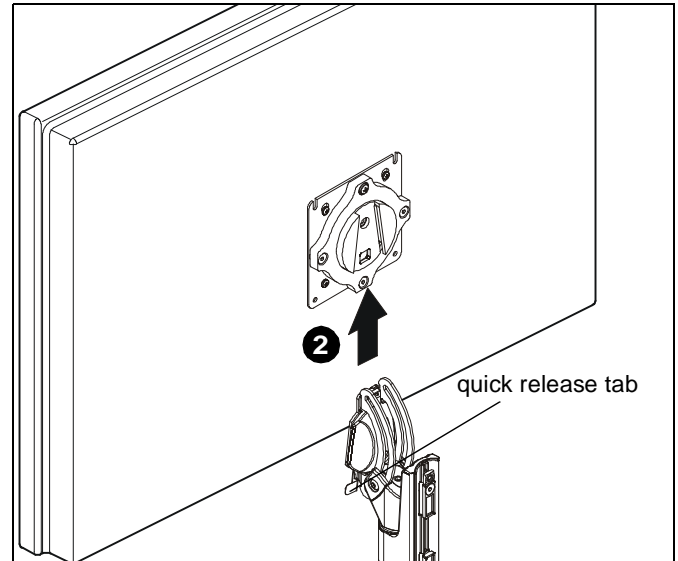

Figure 7
WARNING: Only remove display from mount when the display can be lifted up from the mount! DO NOT remove display unless the display is in the upright position! (See Figure 7)
2. Remove quick release faceplate from mount by pulling quick release lever and sliding faceplate off mount. (See Figure 7)